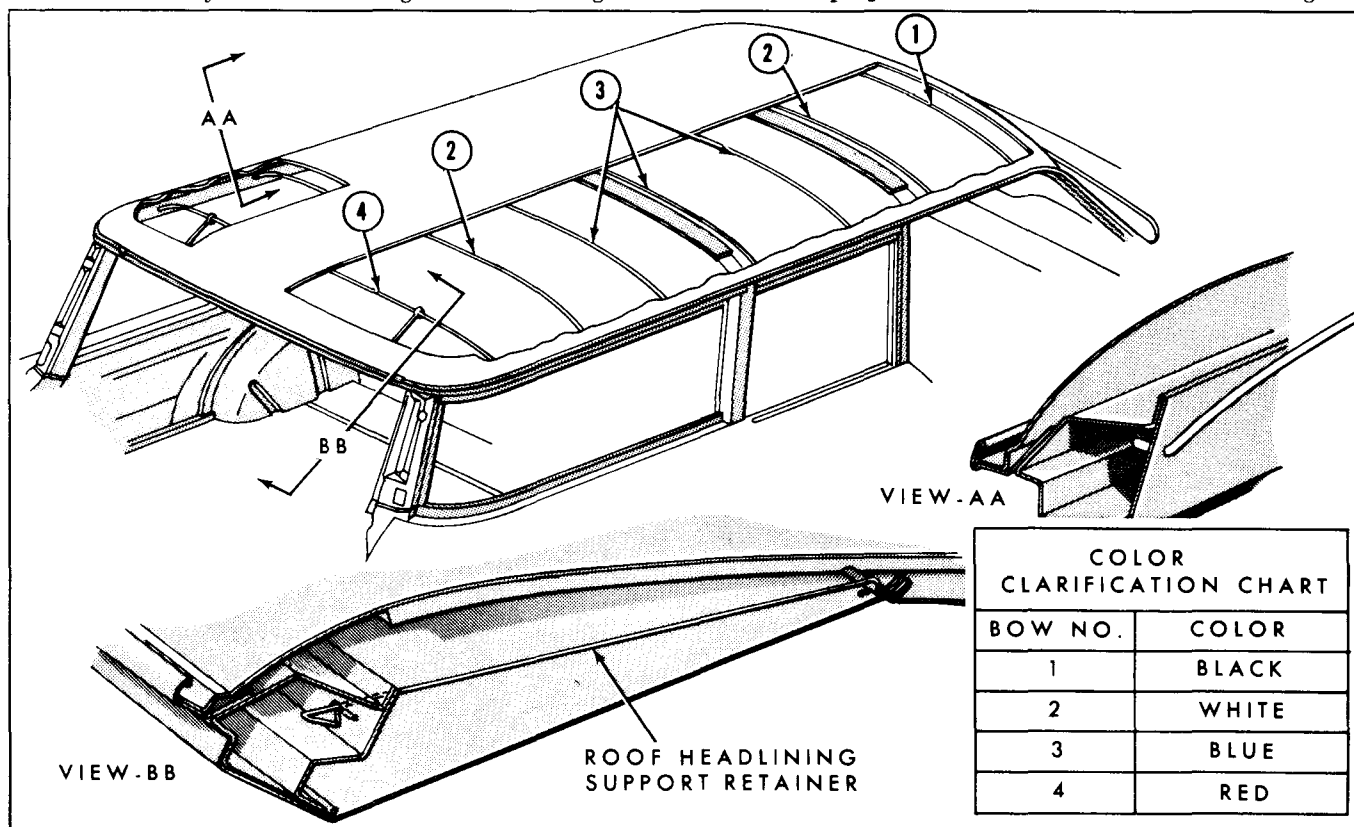

Fig. 13D-5—Roof Bow Color Chart—Models 59, 71—(60C-8061)
15. Starting at windshield header and working toward the rear, pry the roof bows out of retainers. Remove the two rear headlining support retainers. Remove headlining assembly with roof bows. The roof bows are of different lengths and are marked as shown on Roof Bow Color Chart, figure 13D-5. If identification is lacking on the roof bows, mark each bow to assure proper installation of bows on headlining.
1. Insert roof bows into listings of headlining. Refer to Roof Bow Color Chart, figure 13D-5, to make sure each bow is in its proper listing.
2. Starting at the rear of body, insert end of the rear (No. 4) bow into retainers on the roof side rail. Install the two headlining rear support retainers. See figure 13D-5.